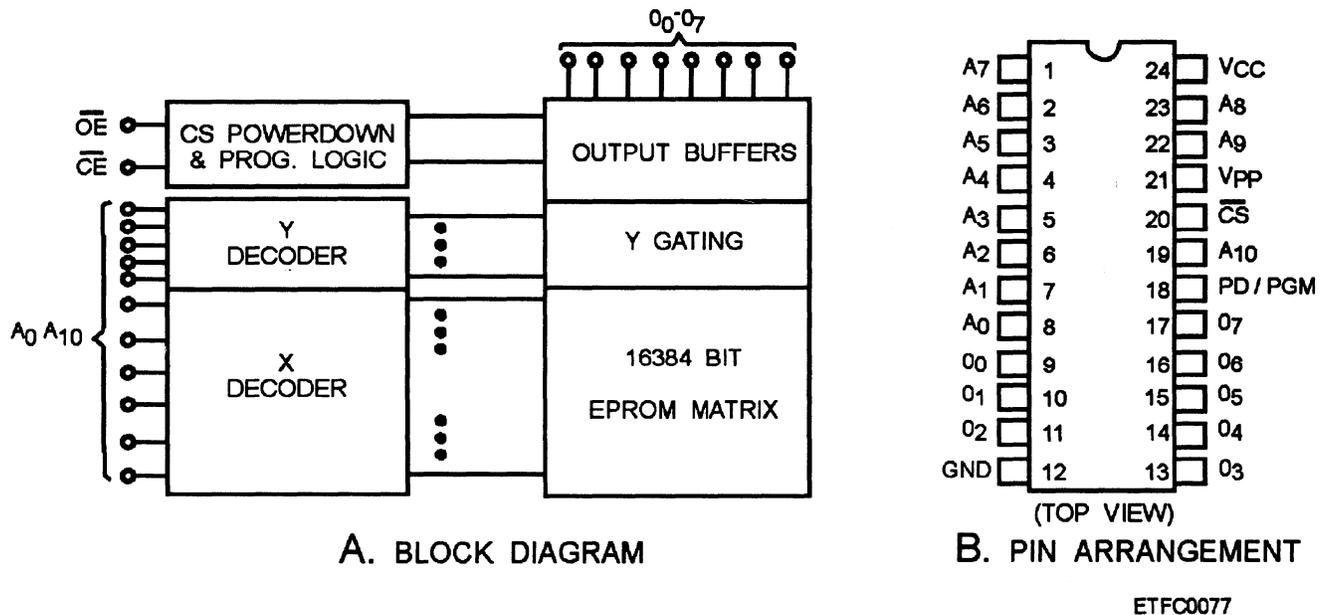

Figure 6-38.—Example of a MOS UV EPROM: A. Block diagram; B. Pin arrangement
ULTRAVIOLET-ERASABLE PROM (UV EPROM OR EPROM). —UV EPROMs/EPROMs trap a charge (1) in the cells to represent the data. To release the charge, the cells are exposed to the UV light for 30 minutes or less. UV EPROMs/EPROMs are usually programmed out of circuit. Figure 6-38 is an example of a $2K \times 8$ UV EPROM; block diagram and pin assignments.